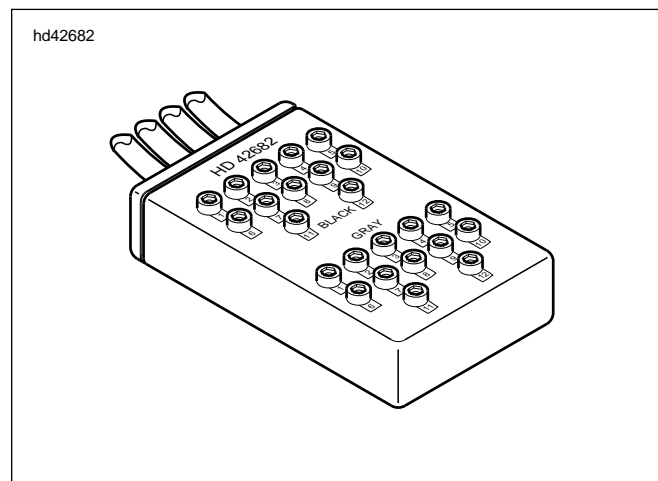

Figure 3-11. Breakout Box
3. See Figure 3-11. Attach Breakout Box to connector.